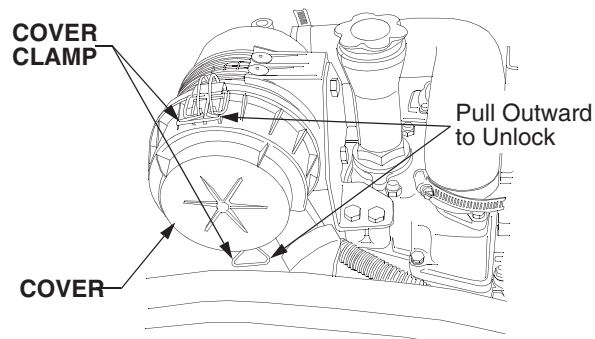

Figure 57
- Unlock the clamps to remove the air cleaner housing cover. See Figure 57.
- Position the cover on the housing. Hook the two clamps onto the rim of the housing and lock the clamps. Refer to Figure 57.